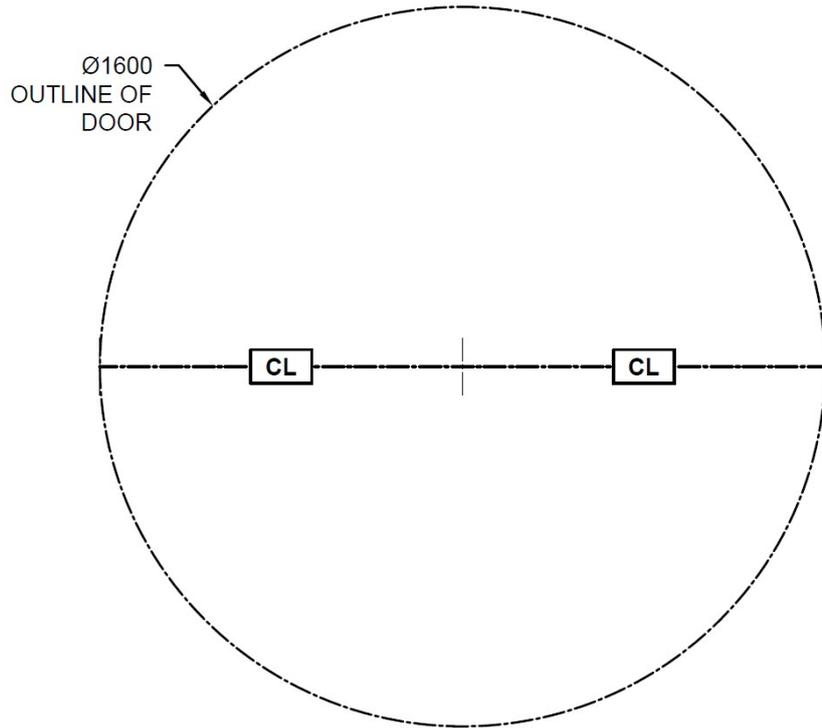

Figure 5: Marking the floor: Step 2
- 4.8. In *Figure 5*, the radial extent of the turnstile is shown as reference.